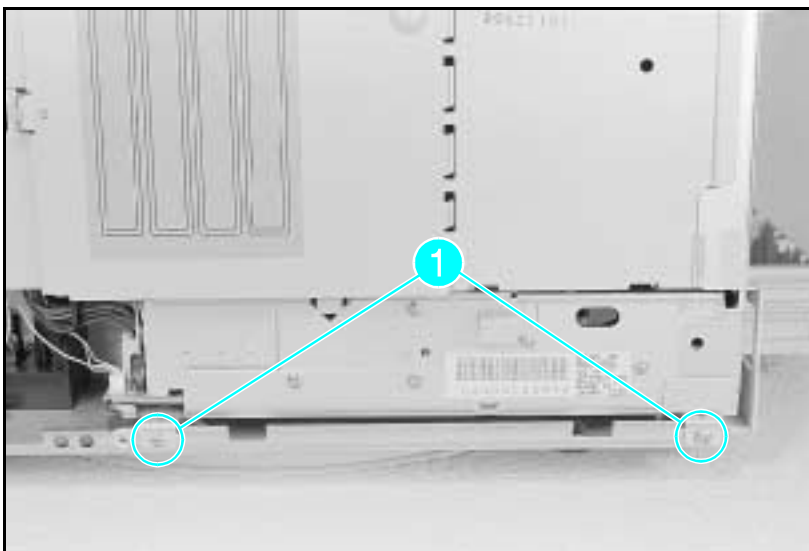

Figure 6-14 Power Supply Screws
- 4** Remove the (2) screws from the bottom frame (see Figure 6-14, callout 1).